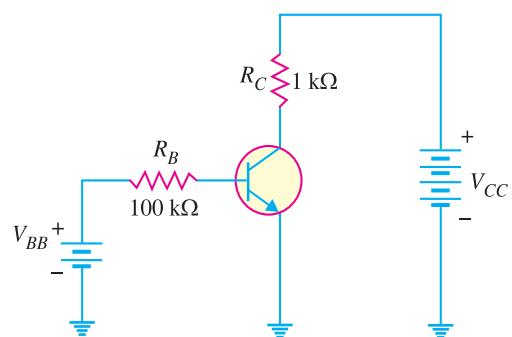

Fig. 8.74
14. A base current of $50 \mu\text{A}$ is applied to the transistor in Fig. 8.74 and a voltage of 5V is dropped across R_C . Calculate α for the transistor. [0.99]